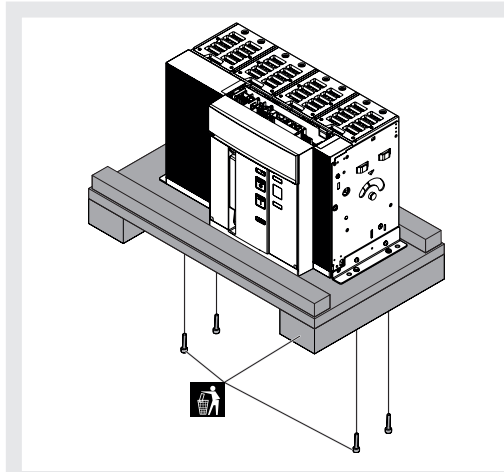
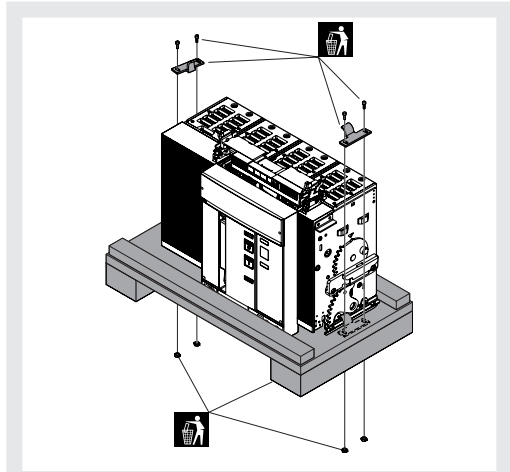
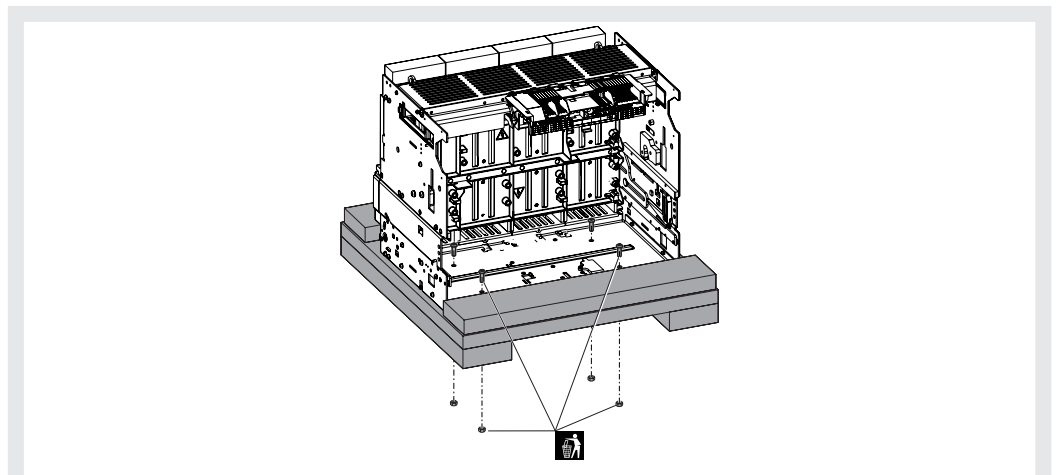

Figure 11 Fixed circuit-breaker
Figure 12 Moving part
Figure 13 Fixed part
4. Take out the screws (see Figure 11 Fixed circuit-breaker). Take out the screws and the mounting brackets (see Figure 12 Moving part, Figure 13 Fixed part).